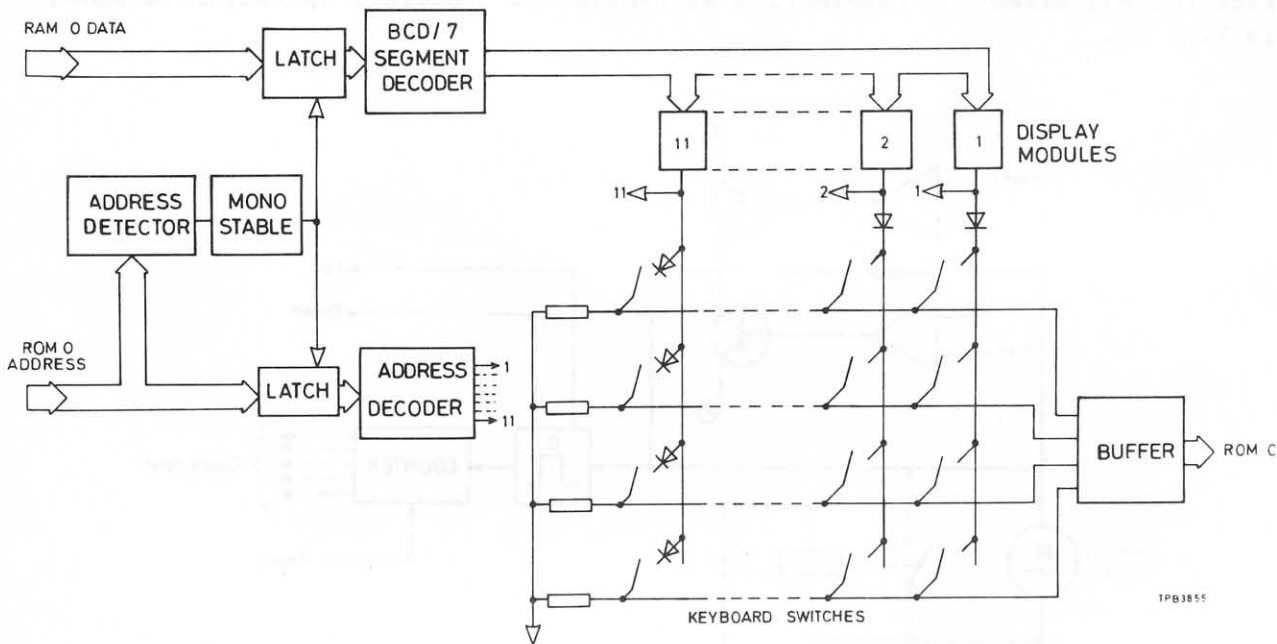

Fig. 26 Keyboard and display operation
83. Front panel switch or keyboard operation is converted by the circuits on this board into uniquely identified signals to the microprocessor. The microprocessor responds by performing the function and/or illuminating the display. For the latter purpose, microprocessor ADDRESS INPUT lines to the board are decoded to determine which l.e.d. on display board AB10 is to be illuminated, while the DATA INPUT lines determine the character to be displayed. Board AB9 also translates manual tuning inputs from motor control board AB13 into rate and direction of tuning signals for passing to the microprocessor. Overall operation of the board is shown in Fig. 26 while the functions the decoder performs are summarized in Table 7.